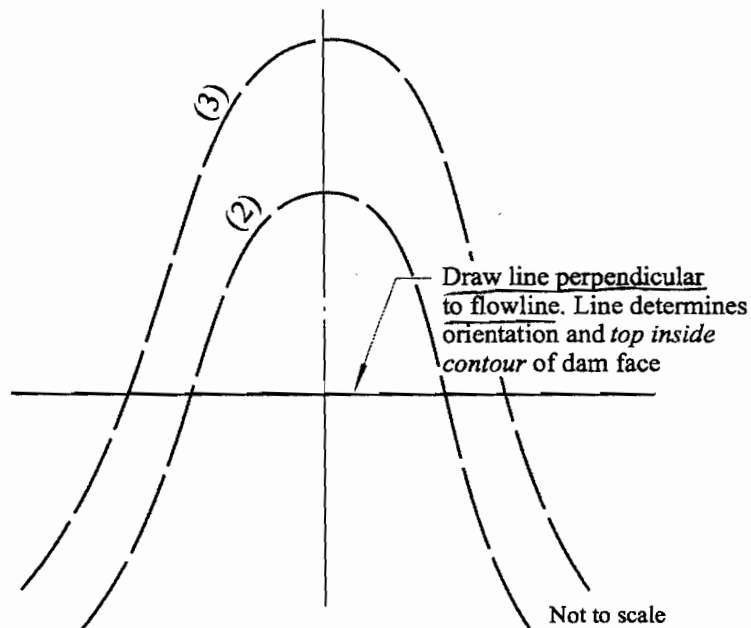

Figure 5-14b, Establishing the Flowline and Top Inside Face of Dam
Step 2. Identify and draw in a flowline, then draw a construction line perpendicular to the flowline as shown in Figure 5-14b.